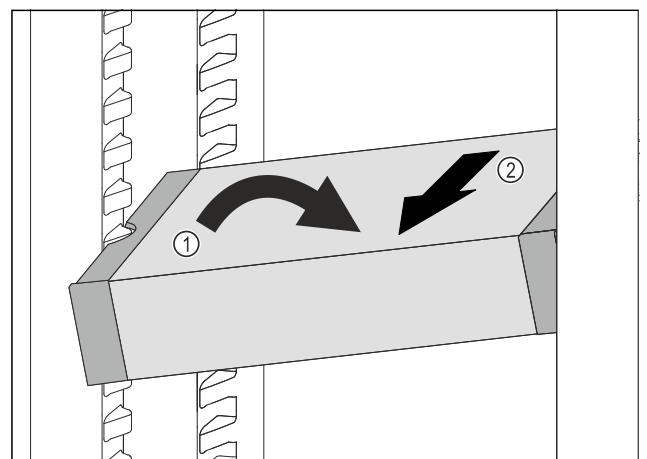

Fig. 200
- Set VarioSafe in refrigerator compartment at an angle. *Fig. 200 (1)*
- Take VarioSafe out to the front. *Fig. 200 (2)*